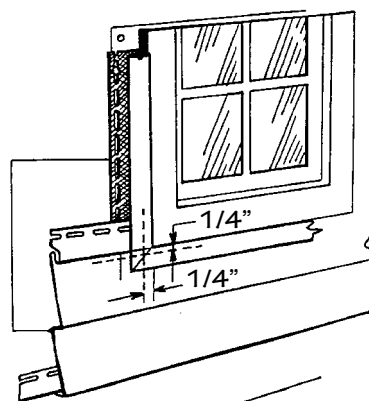

Figure 41.
- Hold the panel under the window and mark the width of the window opening on the panel. Add approximately  $1/4"$  (6.4mm) to both sides to allow for expansion and contraction of the siding. These marks represent the vertical cuts (Fig. 41).